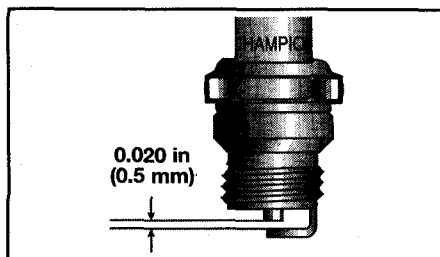

Fig. 36
3. Set the air gap at **0.020 in (0.5 mm)** using a wire feeler gauge (Fig. 36). Install a correctly gapped spark plug into the cylinder head. Torque to **110-120 in•lb (12.3-13.5 N•m)**.